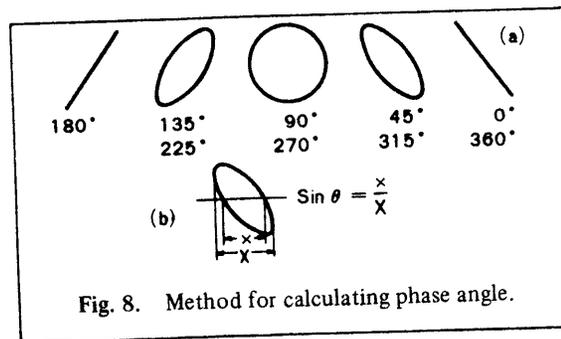

Fig. 8. Method for calculating phase angle.
- c. Changing the frequency of the 3050 under the above condition causes the straight line on the oscilloscope to expand gradually into an ellipse. By utilizing the configuration of this ellipse, the phase shift can be calculated as follows (see Fig. 8):
- d. First, measure the maximum horizontal deflection of the ellipse. Suppose that the deflection is X mm as shown in Fig. 8. Here, let us suppose that the horizontal axis section, which is cut off by the ellipse, has a length of